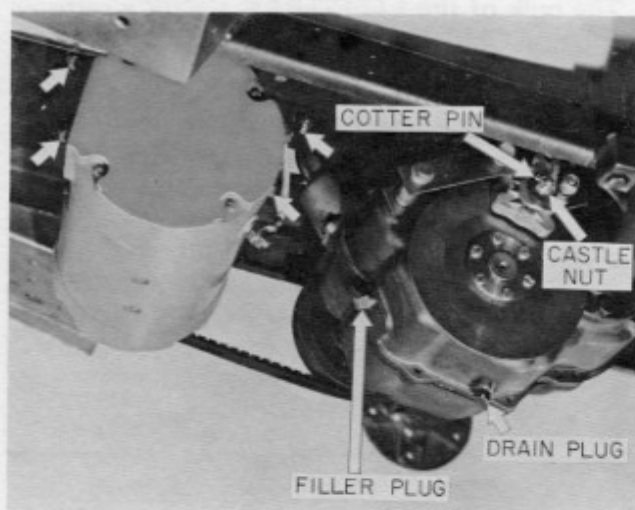

Figure 12. Brake, Transaxle, and Motor Mounting
After 100 operating hours, the transaxle filler plug should be removed and the fluid level checked (See Figure 12). The oil level should be to the bottom edge of the filler hole. If necessary, replenish with approved axle fluid only, i.e., SAE EP90.
1. Loosen four carriage bolts holding motor plate. Insert a 1/4" wedge under the forward part of the motor plate, and retighten bolts finger tight (See Figure 12).
perform satisfactorily, the following adjustment may be made: (See Figure 12).